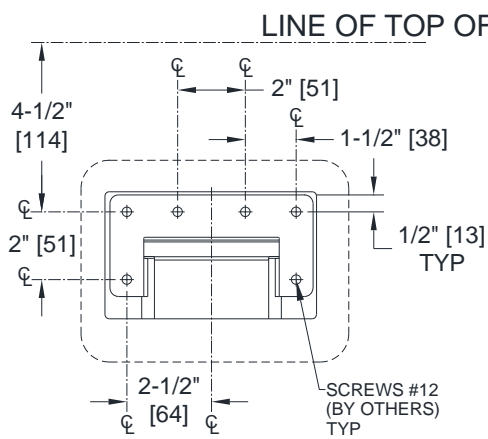
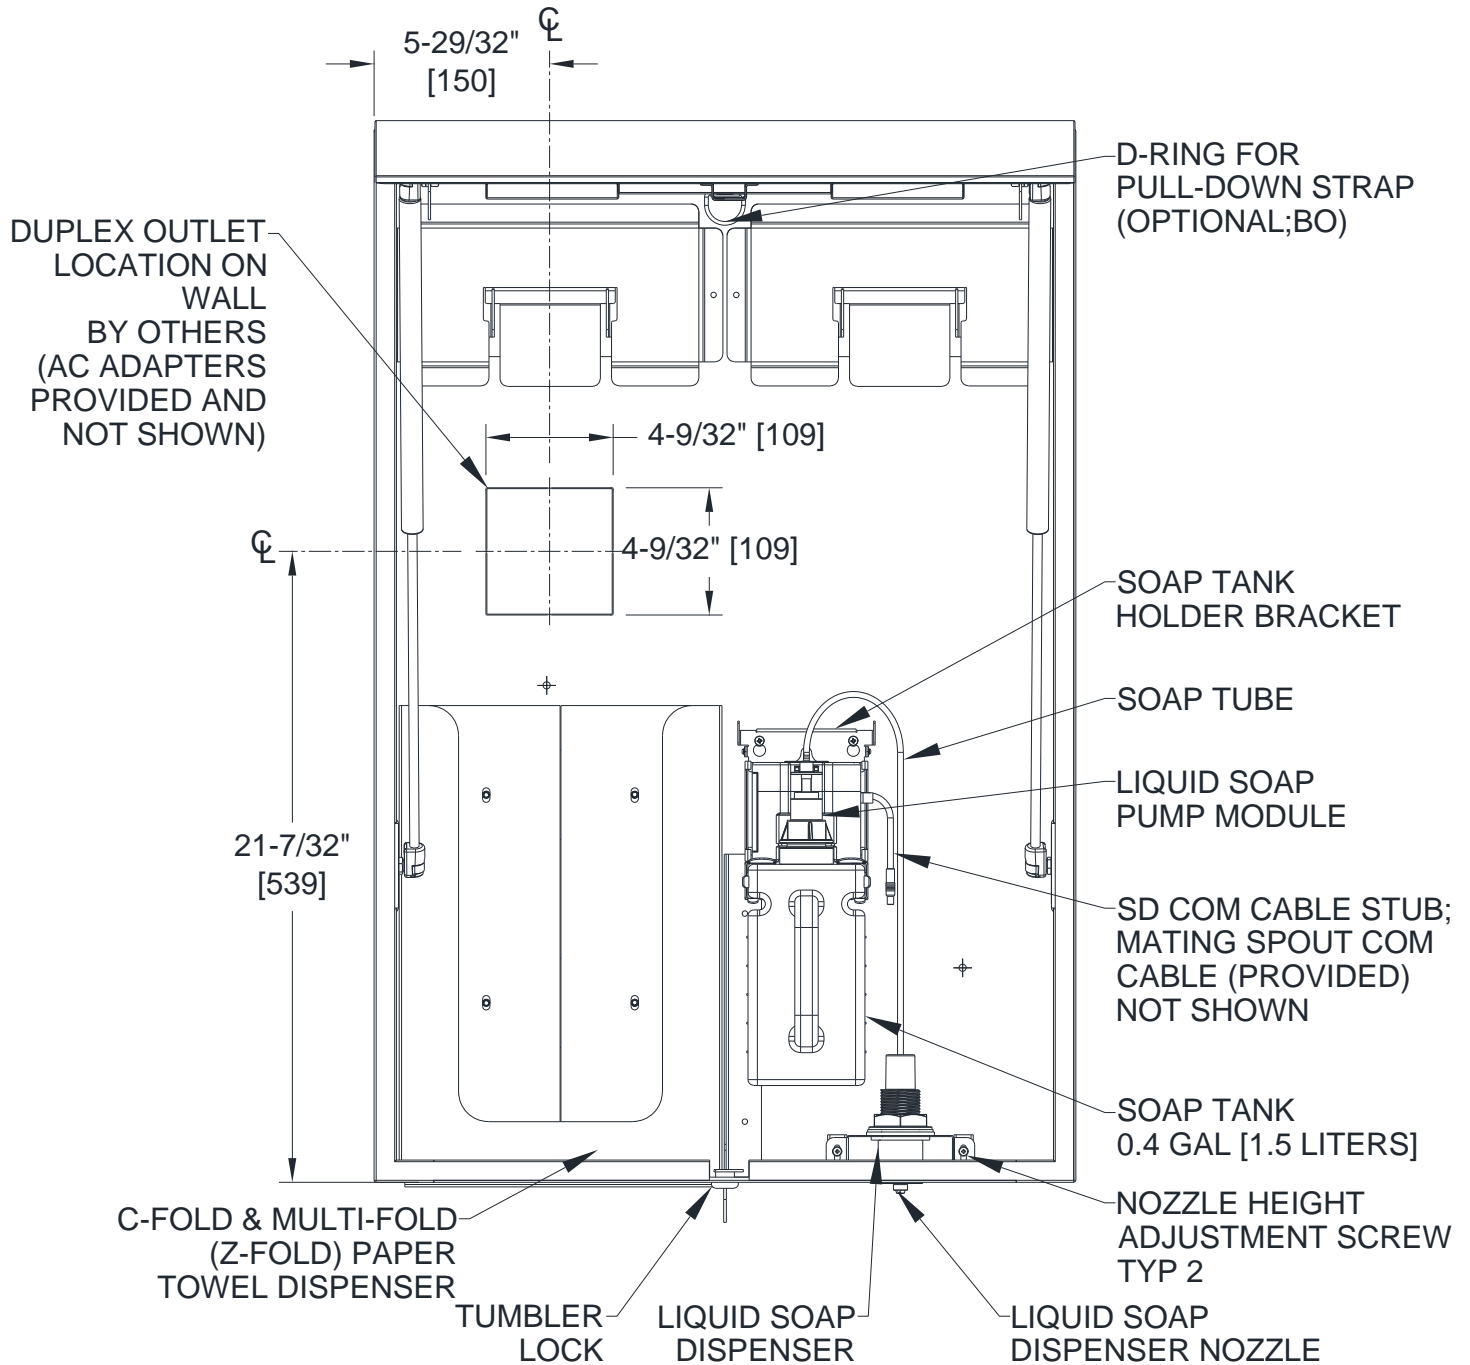

Fig. 1
Fig. 5
Appropriate wall reinforcement and AC duplex outlet must be prepared prior to initiating the Velare™ BTM System installation (see Fig. 2 for blocking reference and Fig. 5 for Electrical KO location). Install the two (2) wall mounting hanger hooks located in the interior of the module on wall using twelve (12) № 12 self-threading, pan-head screws (by others) (Fig. 1) into appropriate wall reinforcements (Fig. 2). Hang the cabinet on wall mounting hanger hooks (Fig. 3). Suggested mounting height is to position bottom of module 16" [406] to 20" [508] above vanity top (Fig. 4). Power can be provided to the interior of module through the Electrical Service KO for duplex outlets located at the back of the cabinet.
For ease of service by height challenged individuals an optional strap (not supplied, by others) can be attached to the D-ring welded onto the T-track raceway on the inside of the mirror door (see Fig. 5). This will provide a lower pulling point to aid in closing the door to the point that the gas struts will assist in final closing to shut position.